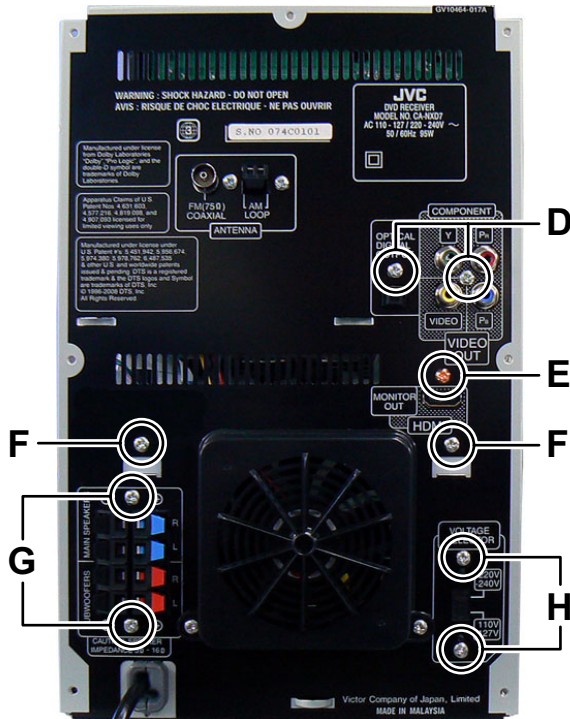

Fig.5
(See Fig.5)
3.2.2 Removing the pickup assembly (See Fig.5 to 9)
- (1) Remove the two rod springs pressing the guide shaft. (See Fig.5)